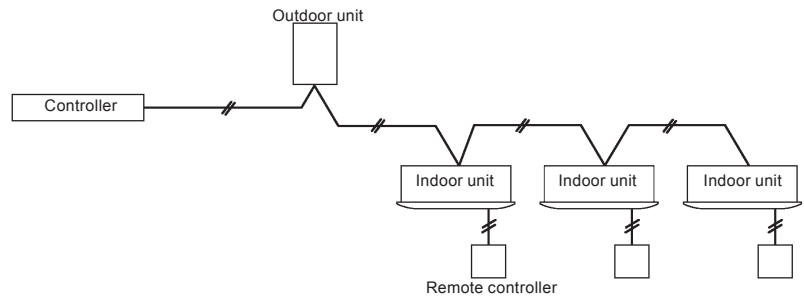

Figure 11
- b) A daisy chain system shall basically be used for a single system. (Figure 11)
⑦ Daisy chain system (Figure 11)